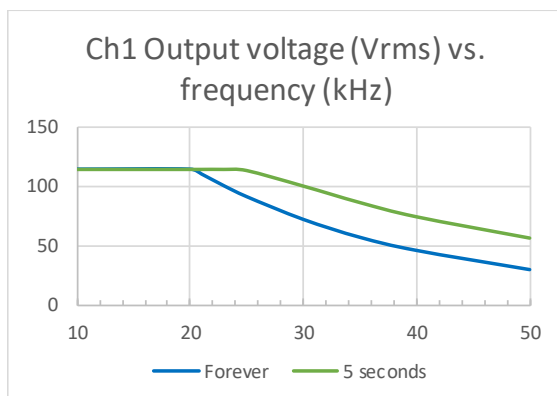
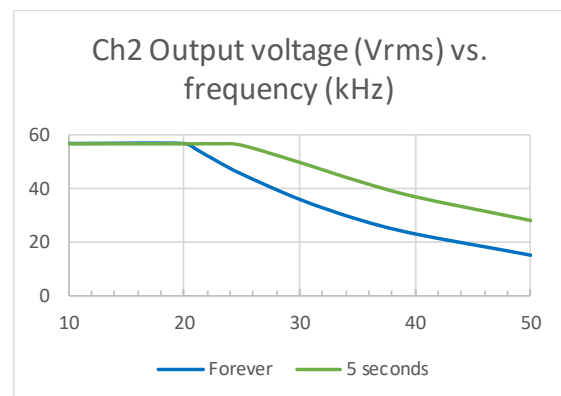

Figure 3-19: Max Vout vs. frequency vs. time (Ch1)
Figure 3-20: Max Vout vs. frequency vs. time (Ch2)
**HF Protection** – A high frequency protection is implemented to protect the amplifier output filter components from overload – refer to *Figure 3-19 and Figure 3-20*. If a high frequency (and high amplitude) signal is present for a longer period, the module will enter HF protection and mute (both) amplifier output(s) until the internal protection timing allows the module to re-enable the amplifier(s).